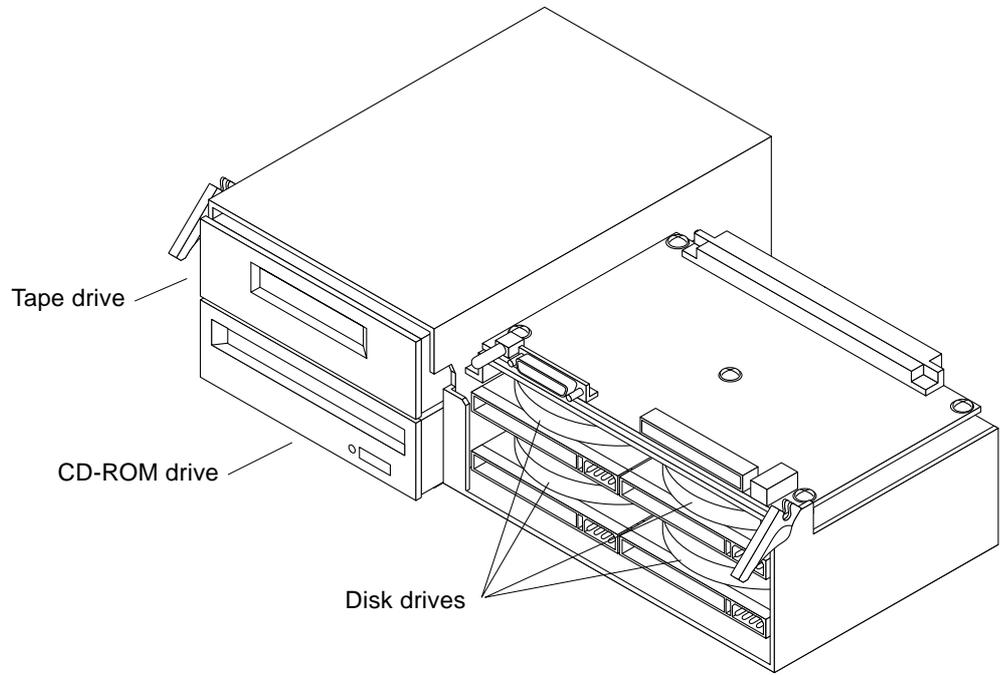

Figure E-7 SCSI Tray Assembly
The SCSI tray is mounted in the front of the server and accommodates six devices and the device controller. The controller connects to the system board via the backplane. The CD-ROM drive device, mounted in the lower left location in the SCSI tray, has device ID 6. The tape drive, if installed, mounts just above the CD-ROM drive and has device ID 5. Your system can have two or four disk drives mounted on the SCSI tray right side, behind a metal faceplate. Device IDs for these devices are 0, 1, 2, and 3. See Figure E-7. The example found in the table in Figure E-7 shows how to address six drives in the SCSI tray.
Before installing a new storage device, set the device address to agree with the addresses shown in Figure E-7. On most devices, the address is set using switches on the device rear. Figure E-7 through Figure E-12 show switch settings for all devices that can be installed in the SCSI tray.
**Note** - The CD-ROM drive is factory configured to ID 6 - the correct address. Do not change this address as no other address is allowed. See Figure E-7.
1. On the drive rear panel, locate the PARITY and ID SELECT and/or TERM POWER pins. See Figure E-7.
Jumpers must be installed on the PARITY and PREVENT/ALLOW pins. Refer to Figure E-7. Ensure jumpers are installed on pins 2 and 1 to select address 6.
Ensure jumpers are installed on pins 2 and 1 to select address 6, and on TERM POWER. No other jumpers may be installed. Refer to Figure E-7.